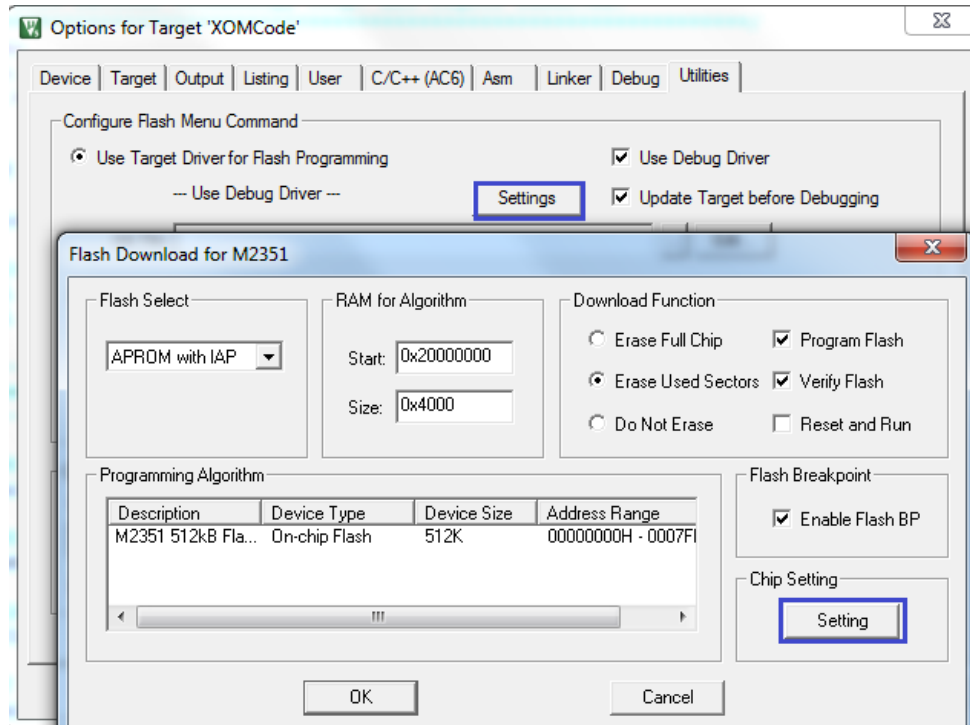

Figure 3-3 M2351 Settings
- Click “Option”->”Utilities”->”Settings” button to enter Flash Download page. Click the “Setting” button in the “Chip Setting” to enter the “M2351 Settings” page, as shown in Figure 3-3.